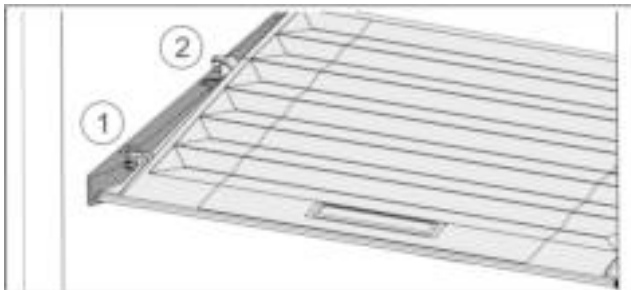

Fig. 33
- ▶ Pull the lid up at the front to the opening in the retaining parts Fig. 33 (1).
- ▶ Lift from the back and pull it up and out Fig. 33 (2).